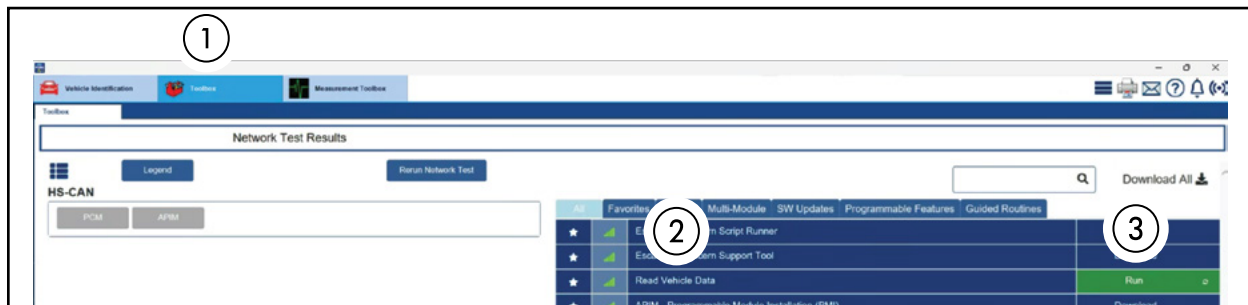

FIGURE 1
6. Select **Toolbox** (1) tab.
7. Select **All**. See Figure 1.
8. Select **Read Vehicle Data** (2) and then **Run** (3).